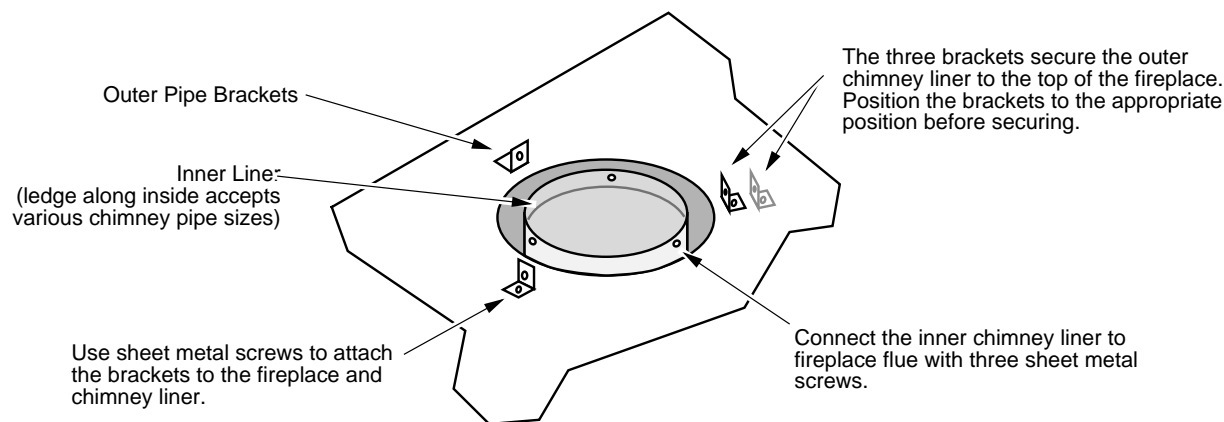

Figure 19
- Secure the inner and outer chimney liner to the fireplace (see Figure 19).